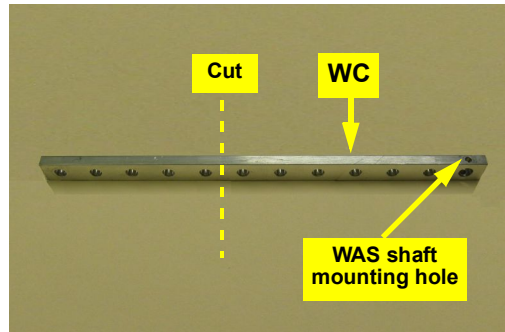

Figure 1b: WAS arm preparation
- b. Cut four holes off the WAS arm **WC** at the opposite end from the WAS shaft mounting hole (Figure 1b).